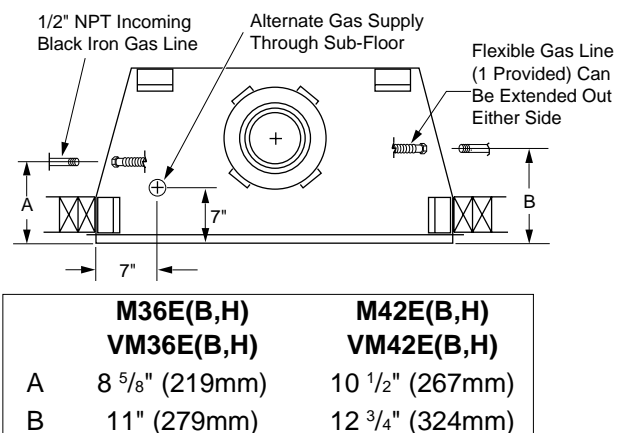

Figure 17 - Routing Incoming Gas Line
3. Install the supply line to the appliance using a 1/2" NPT black iron gas line terminating 2 5/16" above the bottom of the appliance. The gas line may be installed from either side or from the bottom of the appliance (see Figure 17, page 11).
In conformance with local codes, route a 1/2" NPT gas line towards the appliance coming in from any of the 3 directions shown in Figure 17.